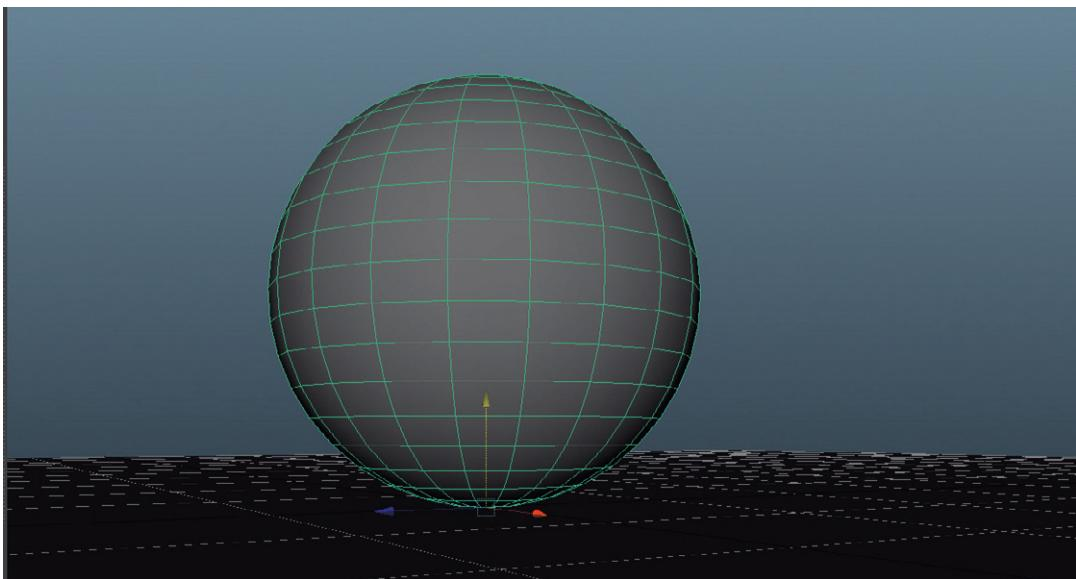

FIG 9.2 Moved sphere with appropriate axis.
Step 3: Snap the sphere to sit right on the ground. In the side View Panel, hold x (snap to grid) and move the sphere up so that it's sitting right on the plane (Fig. 9.2).